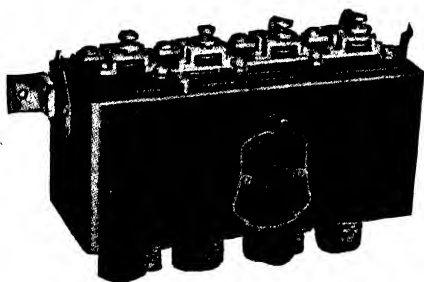

Fig. 45. Pittsfield Multi-Vibrator Coil
*Complication of Multi-Vibrator.* A vibrator coil is necessary for each cylinder, each coil being energized as the timer passes over the contact corresponding to it, thus putting it in connection with the battery at the moment that particular cylinder is to fire. Fig. 45 shows a four-unit coil, i.e., for a four-cylinder motor. However, the coil cannot act before its core becomes "saturated", that is, thoroughly magnetized, and it must then pull its armature down against the tension of its spring, so that there is both an electrical and a mechanical lag, or, in other words, an appreciable amount of time elapses between the moment the circuit is closed by the timer